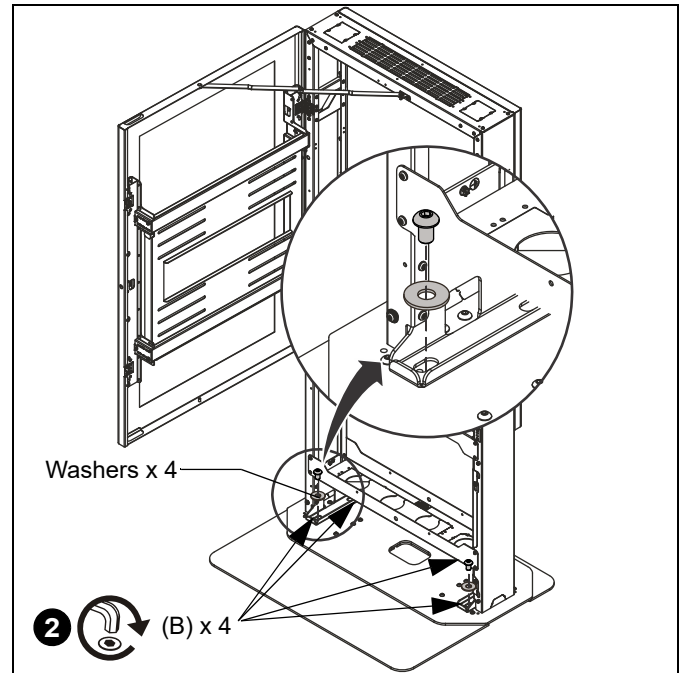

Figure 6
2. Fasten kiosk to base using four 5/16 x 1/2" button head screws (B) and washers removed in Step 1 of **Disassembly of Shipped Parts** section. (See Figure 6)